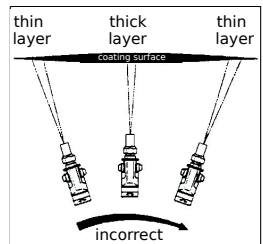

Fig. 20: Spray gun guide
- ▶ Ensure an even speed of the movement and guide the spray gun parallel to the coating surface. Weaving with the spray gun leads to an uneven coating (see Fig. 20).